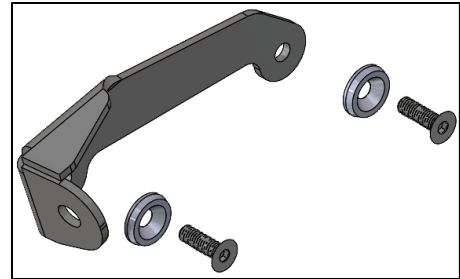

Figure 4
- 6) Using a 4mm hex on the fasteners and T30 Torx on the factory nut, install the lower limb riser brackets on the outer sides using the supplied screws and fender washers (Fig.4). Torque 7.7 lb.ft. (10.5 Nm)